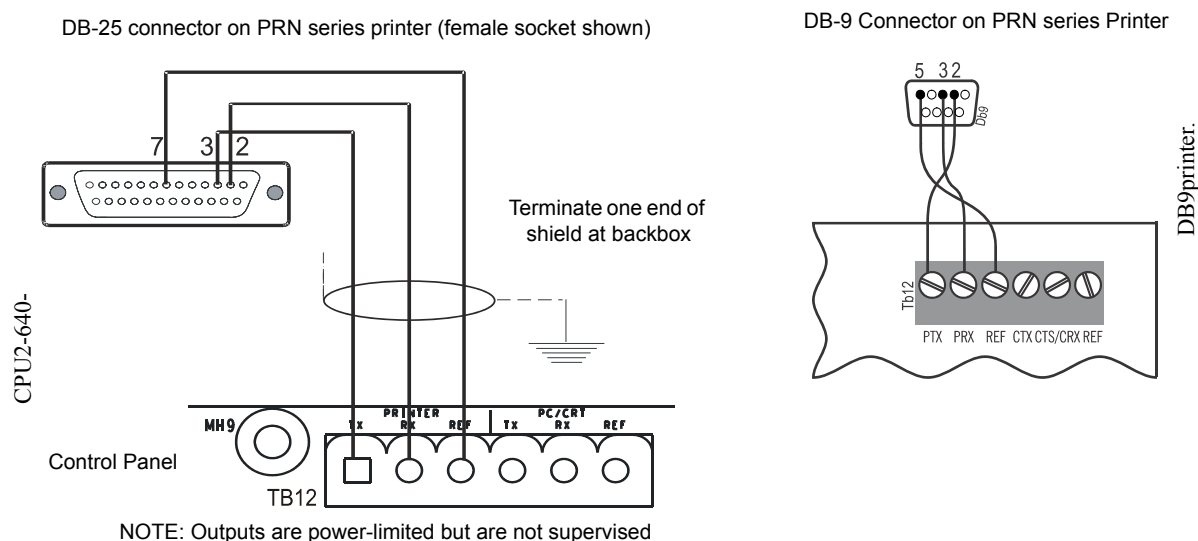

Figure 3.5 Remote Printer Connections
1. Connect the three (3) open leads of the custom cable to the TB12 terminal block on the control panel as shown in Figure 3.5.